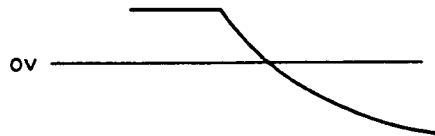

Fig. 4-6. Pin 13 Voltage when FS1 Changes from 0 to 1
1. Press the rear edge of the rack, marked A in Fig. 4-5, while pulling the disc tray out to the position where it catches, illustrated in Fig. 4-6.
2. While pulling the clamp holder B (see Fig. 4-6) upward with the right hand, hold the tray as indicated by C in the left hand and pull it outward. Take care not to allow the φ4 steel ball to fall (we recommend holding the ball in place with the left index finger while extracting the tray).
Next, the Charge/Recharge circuit of CR is formed, and the voltage of Pin 13 drops with time as shown in Fig. 4-6 below.